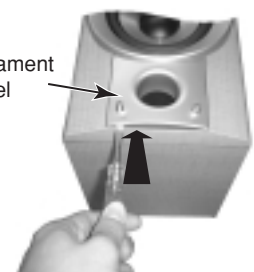

Fig.4
2. A minus driver is inserted in the space between the ornament panel and the cabinet in the bottom part of the main body little by little. (See Fig.4)